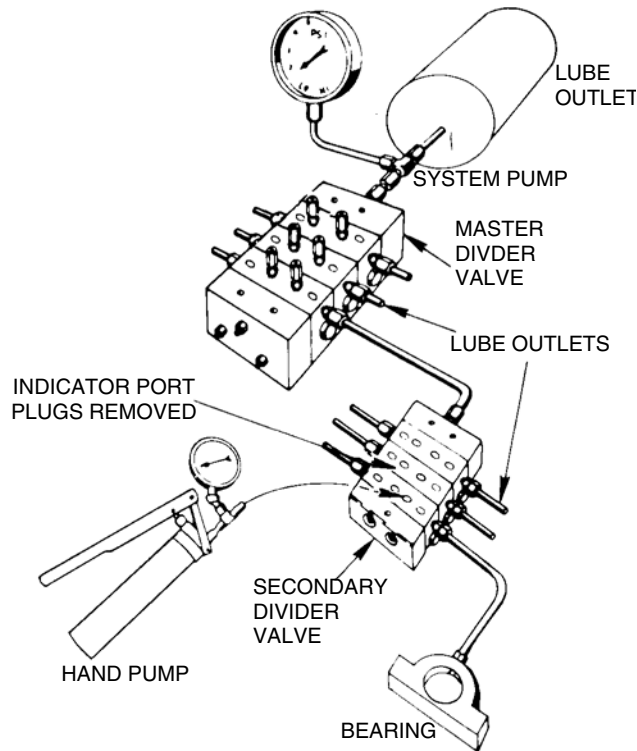

FIG. 14
6. Install manual pump into each indicator port of secondary divider valve in turn and slowly operate pump (FIG. 14). If high pressure exists, blockage has been located. Look for **crushed line, tight bearing, improperly drilled fittings and/or lube inlet port**. Correct as necessary.